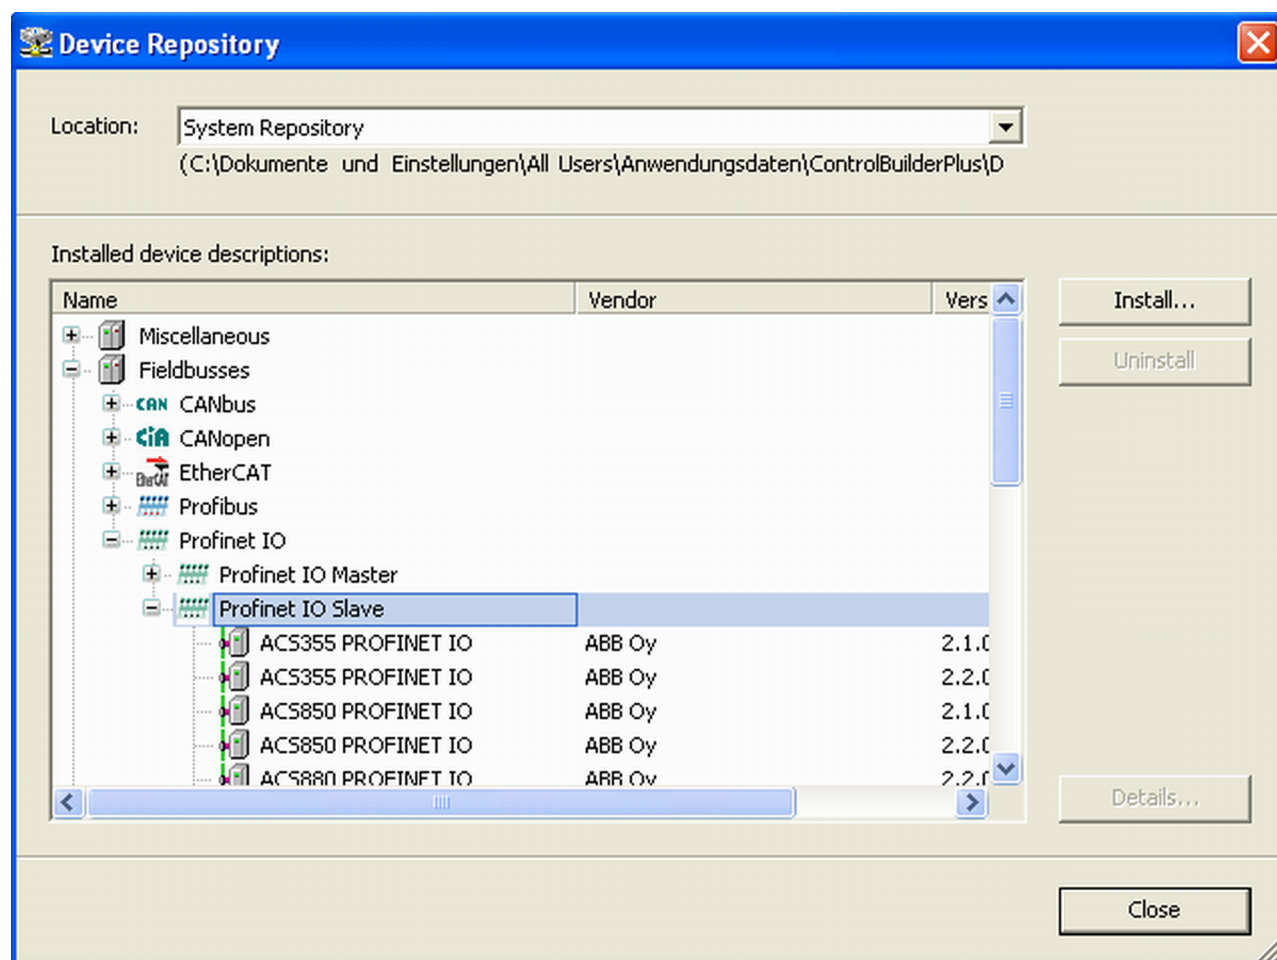

Fig. 72: New device shown in Device Repository
- ⇒ After successful installation, new devices can be found in Device Repository under “PROFINET” object (Fig. 72)